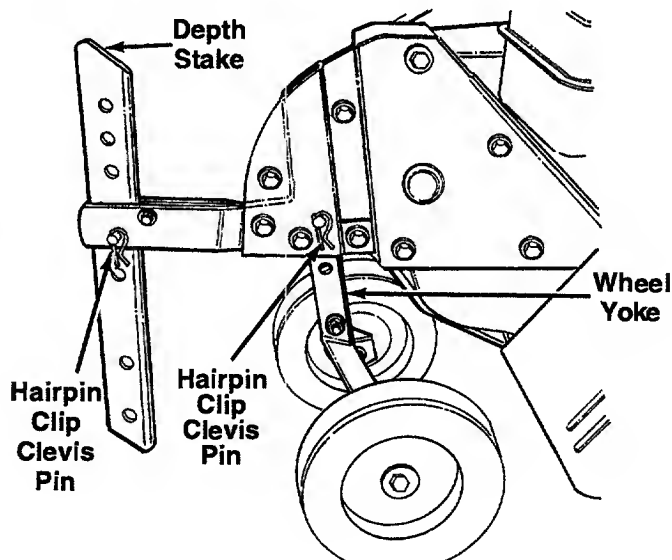

Figure 9
The tiller is shipped with the wheels adjusted such that the unit sits level. During tilling as the tines enter the ground and the front of the tiller lowers, the wheels must be raised to level the unit, which is essential for proper engine operation. This adjustment is made by removing the clevis pin and hairpin clip from wheel yoke, raising the wheels to the desired height, and replacing the clevis pin and hairpin clip. See Figure 9.
2. **Depth Stake Adjustment:** The depth stake acts as a brake for the tiller and controls the depth and speed at which the machine will operate. Remove the clevis pin and hairpin clip to raise or lower depth stake. See Figure 9.